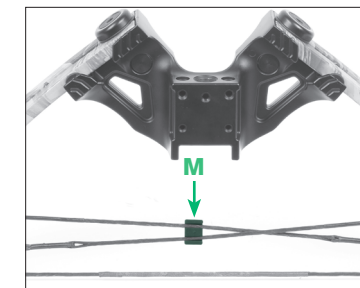

FIGURE 3
**1a** Attach the cable slide to the cables. The cable slide has a larger gap on one side to properly slide onto the rail. (Fig. 3)